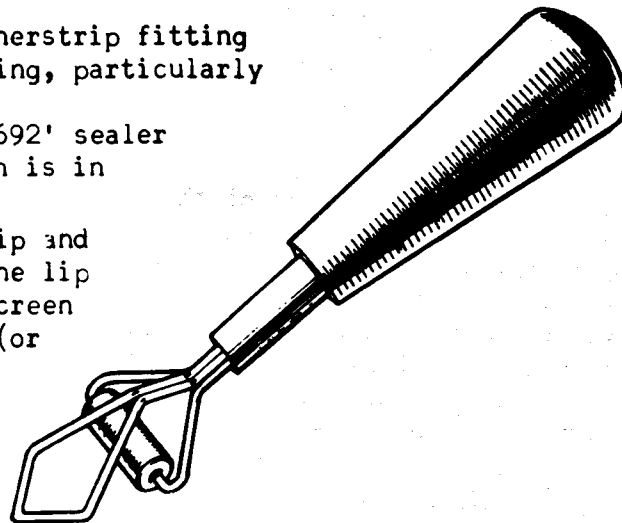

Fig.16 - Brightwork Strip/Insertion Tool.
4. Using the tool illustrated (see Fig. 16) insert the filler strip into the weatherstrip starting at the lower centre.